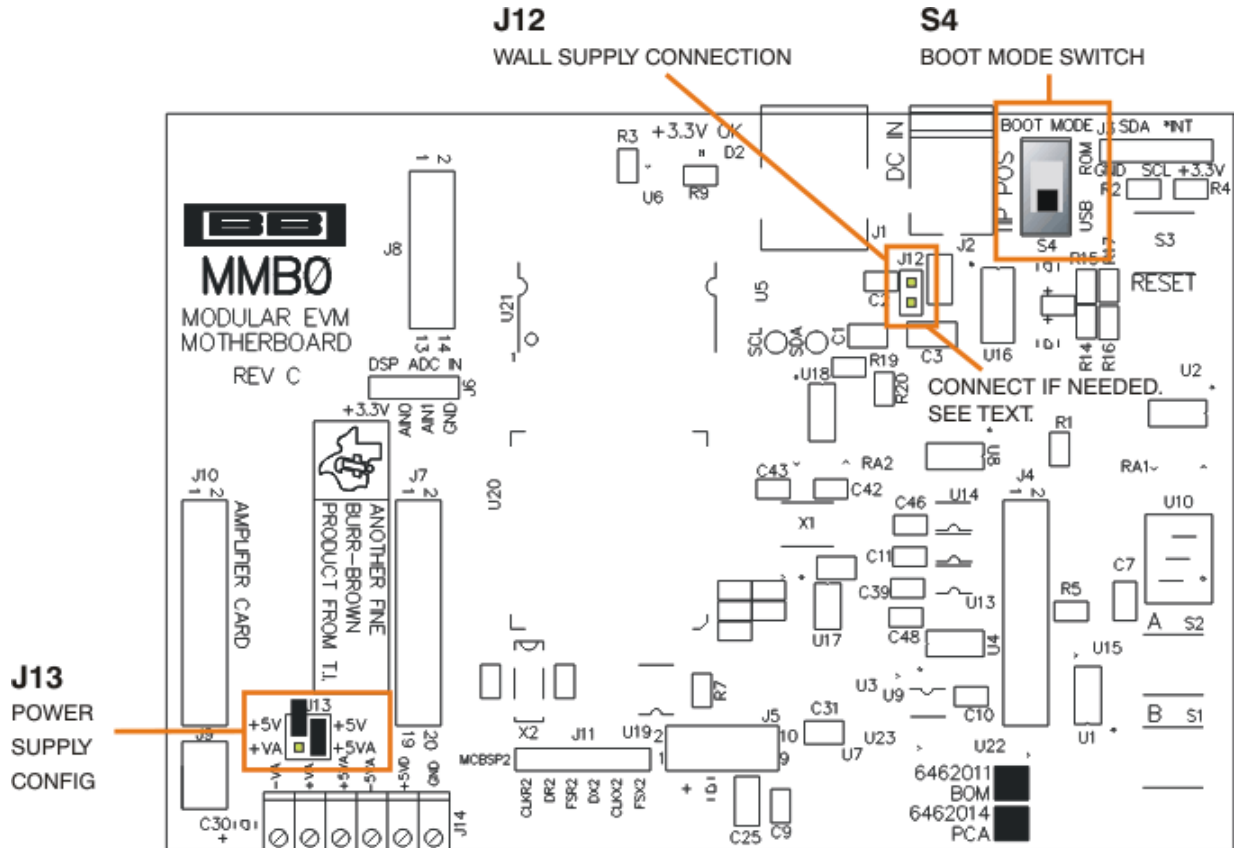

Figure 5. MMB0 Initial Setup
- Step 2. Set the jumpers and switches on the MMB0 as shown in Figure 5.